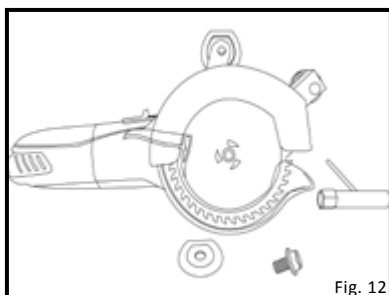

Fig. 12
4. Place washer and lock nut onto shaft. (Fig. 12)